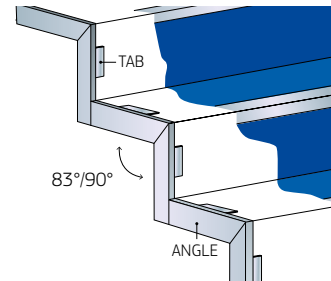

FIG. 2
- Once angles have been trimmed to fit, fix to side of steps using Q-FIX adhesive. The Tabs locate trims for correct depth (FIG. 2).